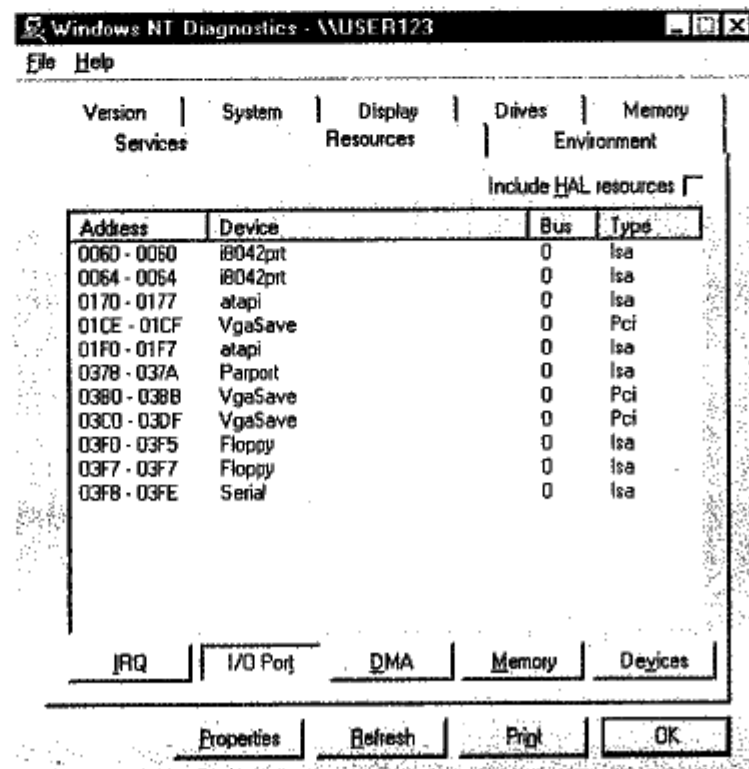

Figure 3-20
- 4-3 Click the "I/O Port" button as shown in Figure 3-20. Write down an unlisted I/O port value in the range 0300-FFC0 with increments of 40. Typically, addresses before 0400 are used even if not shown in the window.